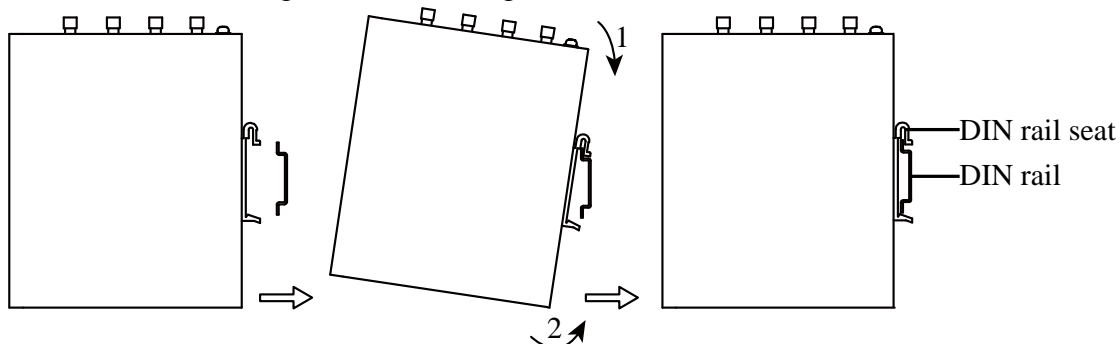

Figure 3-1 DIN rail installation schematic diagram
Step 2: Insert the upper part of the DIN rail seat onto the DIN rail. Grab the lower end of the device and revolve it upward in the direction indicated by arrow 2 with gentle force, to insert the DIN rail seat onto the DIN rail. Check that the device is installed reliably on the DIN rail, as shown in Figure 3-1 on the right.